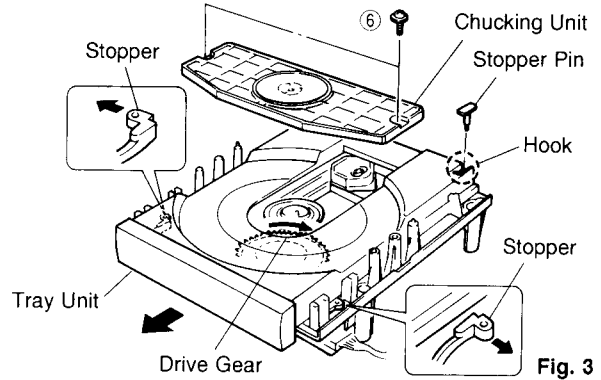

Fig. 3
- Remove 2 screws (⑥) and then remove the Chucking Unit in Fig. 3.
- Remove 1 hook and then remove the Stopper Pin in Fig. 3.
- Rotate the Drive Gear and then open the Tray Unit in Fig. 3.
- Detach the Stoppers on both sides and then pull out the Tray in Fig. 3.